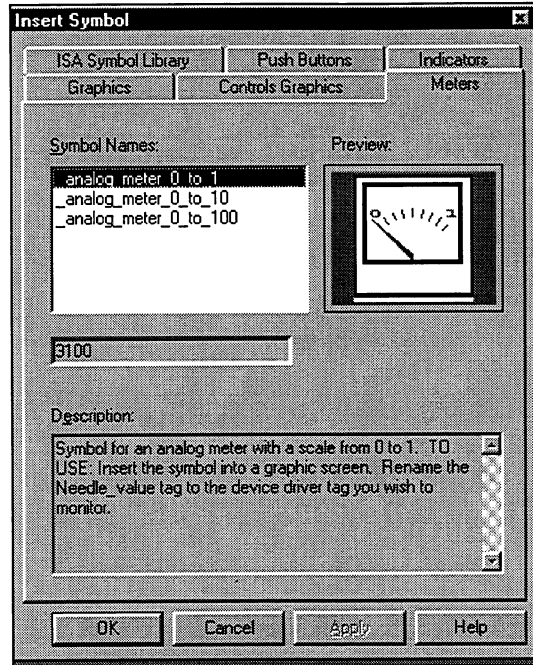

Figure 4-13. Preview of Analog Meter
18. Select the `_analog_meter_0_to_1` symbol, as shown in Figure 4-13.